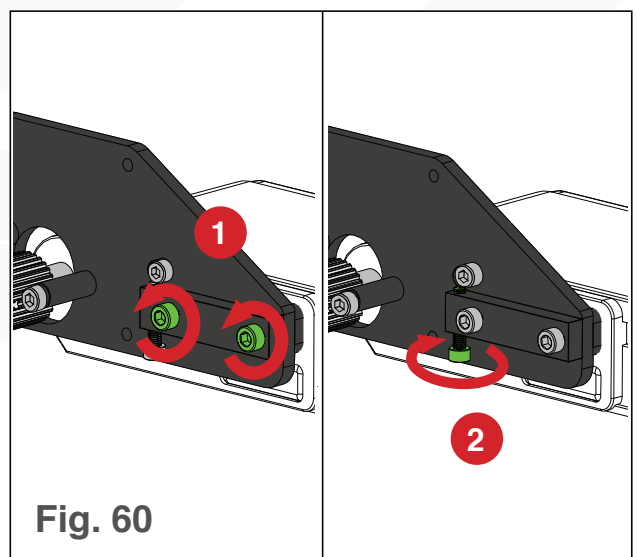

Fig. 60
1. Loosen the two horizontal tensioning bolts (see Fig. 60). **Do not remove them.**
2. Loosen the vertical tensioning bolt (see Fig. 60) until the drive rollers are just close enough for the timing belt to loop around both.